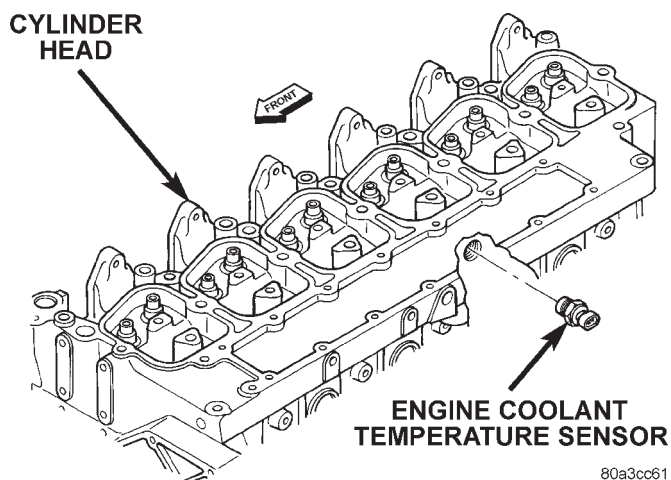

Fig. 2 Engine Coolant Temperature Sensor Location
- The Engine Coolant Temperature (ECT) sensor (Fig. 2) to supply an engine coolant temperature input to the PCM.